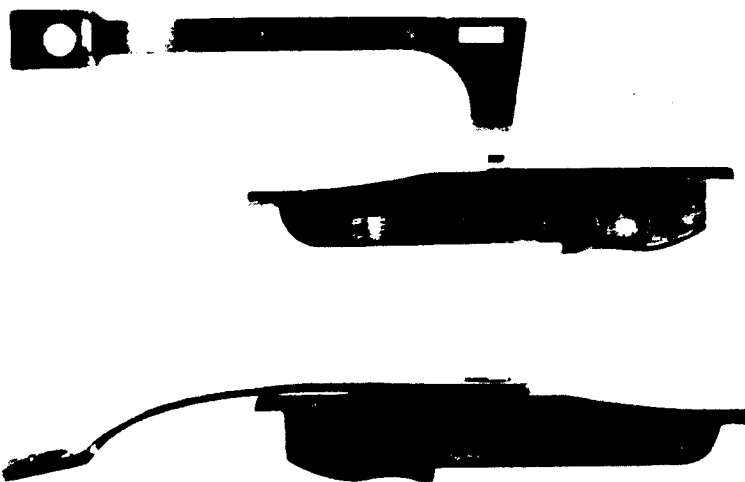

FIGURE 21. TWO-PIECE INTERRUPTER-EJECTOR FOR RIFLE M1891/30.
f. The two-piece interrupter-ejector for the rifle M1891/30 is illustrated in figure 21.